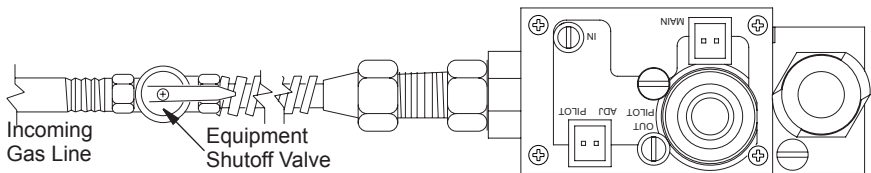

Figure 34 - Turning Equipment Shutoff Valve to the OFF Position
5. Turn equipment shutoff valve clockwise  to the OFF position (see Figure 34). Do not force.
- Turn the adjustment screw marked PILOT clockwise to decrease or counterclockwise to increase the flame to proper size (see Figure 34, page 25). Do not remove the adjustment screw.